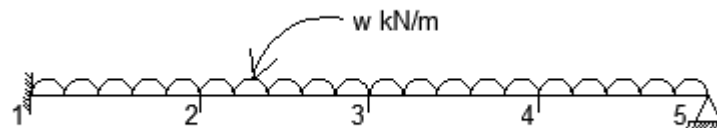

Fig. 1
8. A propped cantilever AB fixed at A and propped at B is of length L and has constant flexural rigidity EI . The cantilever supports a udl of w kN/m over the whole length as shown in Fig. 1. Using 4 subintervals, estimate the deflection at pivotal points using 4th order differential equations.